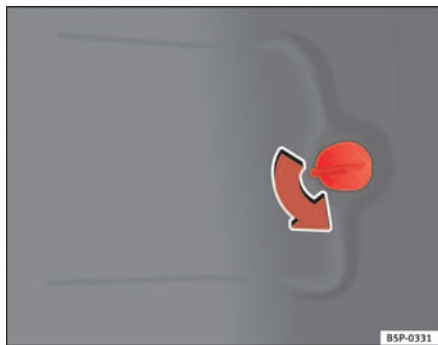

Fig. 187 Lights on vehicle body
- Remove the cover of the luggage compartment side panel ⇒ fig. 187.